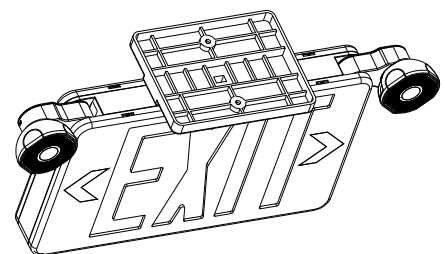

FIG 6
4. Remove out the mounting hole cover on the top or side of the unit, assemble the canopy (Fig.6)